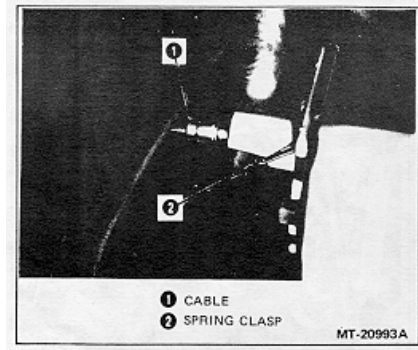
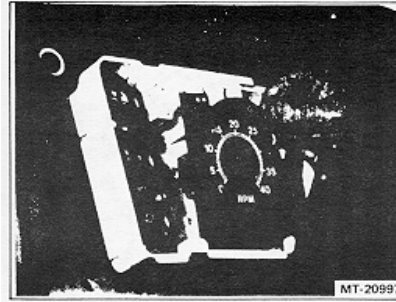

Figure 4 - Releasing Speedometer or Tachometer Cable
Figure 8 - Removing Tachometer
4. Disconnect flexible cables from back of speedometer and tachometer by pressing down on quick-connect spring clasp (Figure 4).
3. Speedometer and tachometer (Figure 8) are also front serviceable and can be removed from cluster without disconnecting cables. (If cables are to be removed, these are quick-disconnect from rear of cluster, Figure 4)
2. Depress spring clasp on back of speedometer or tachometer and release cable (Figure 4).